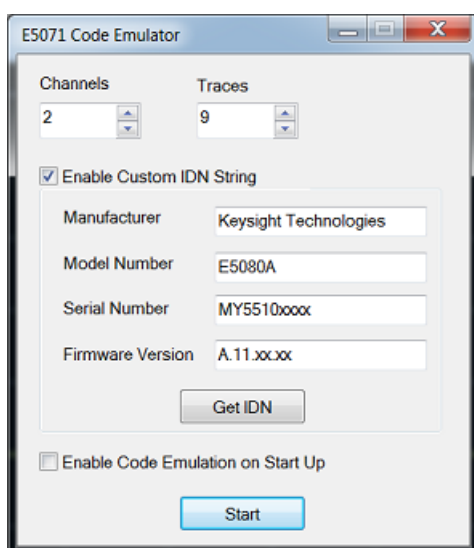

Figure 8-46 E5071 Code Emulator
- 9 To quit the emulation mode, press **Exit** on the dialog box in Figure 8-46.